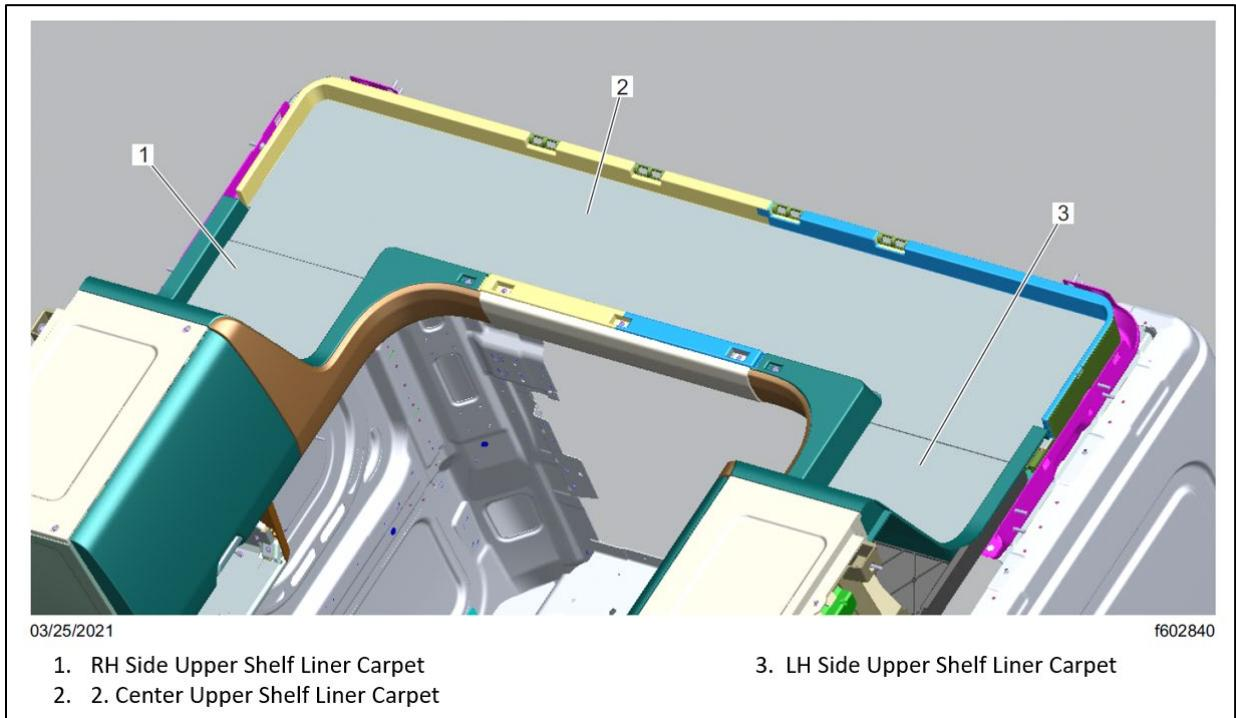

Fig. 37, Rear Upper Shelf Carpet
4. Remove the center and RH side rear upper shelf carpet. See **Fig. 37**.